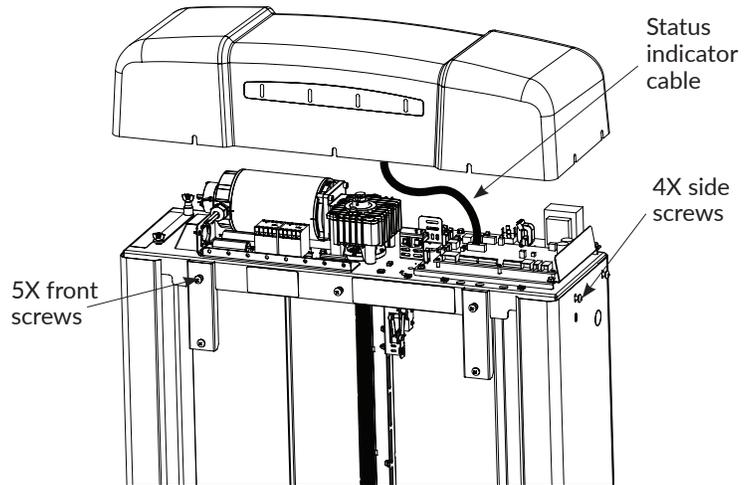

Figure 3-3
1. Loosen (7) screws around the perimeter of the top cap with a Phillips head screwdriver.
2. Lift the top cap partially and disconnect the cable between the top cap at the control board. Set the top cap aside. *See Figure 3-3.*